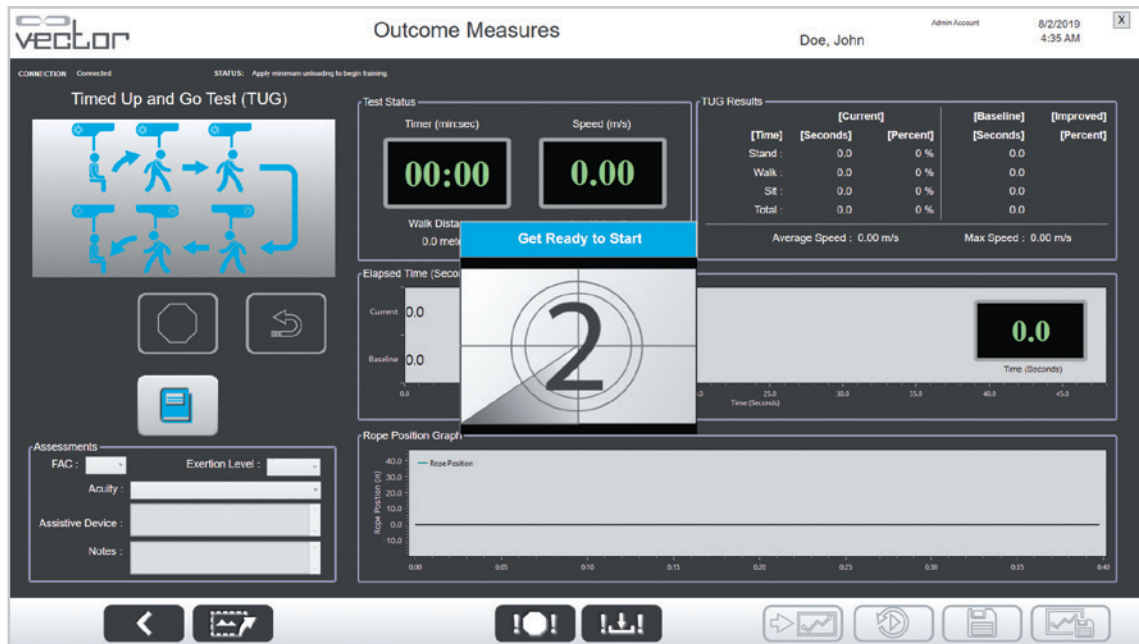

Figure 7-3: Get Ready to Start Window
5. A Get Ready to Start window will appear and the countdown will begin. See Figure 7-3.